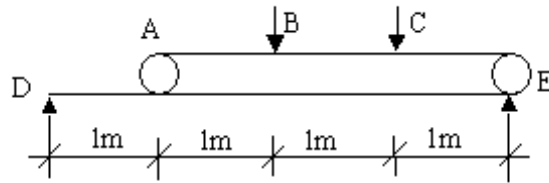

Figure 8:
3. Calculate deflections at points A, B and C of the combination of beams shown in figure 8 below, if the points B and C do not come in contact with beam DE. Assume $I = 0.4m^4$ and $E = 200$ GPa. Load applied is 'P' at B and C. [16]